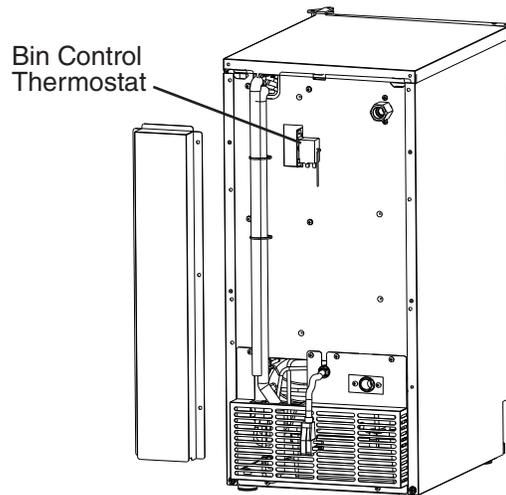

Fig. 33
- 10) To confirm bin control operation, hold ice in contact with the bin control thermostat bulb. **NOTICE! If the ice machine does not stop within 10 seconds, the bin control thermostat must be adjusted. Installation at higher altitude locations are more likely to require adjustment.** See Fig. 33.